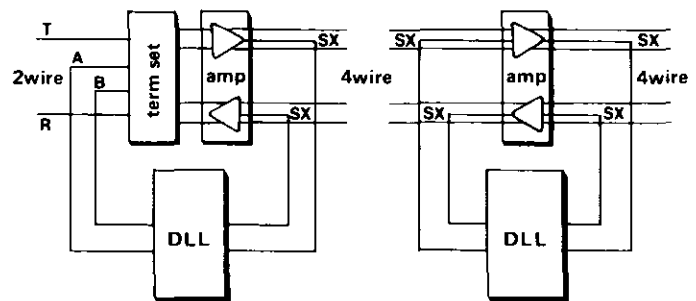

figure 2. Typical 2w-to-4w and 4w-to-4w interfaces
2.04 Though basically a 2wire-to-2wire device, the 7503 can be conditioned via switch option for use in 4wire-to-4wire, 4wire-to-2wire, or 2wire-to-4wire applications. In such applications, however, the 7503 must interface the 4wire circuit(s) through a 4wire device such as a line amplifier or a voice-frequency repeater. For a 4wire circuit on the switching-equipment side of the 7503, this interface is accomplished by connecting the TIP SW and RING SW leads of the 7503 to the switch-side A and B leads or simplex (SX) leads of the 4-wire device. Similarly, for a 4wire circuit on the station side of the 7503, this interface is accomplished by connecting the TIP STA and RING STA leads of the 7503 to the station-side A and B leads or SX leads of the 4wire device. Figure 2 shows 2wire-to-4wire and 4wire-to-4wire interfaces involving the 7503.
line amp, repeater, or term set) on either or both sides. If the module interfaces 2wire transmission equipment on both the switch and station sides, set S8 to the 2W position. If the module interfaces a 4wire transmission device on either side or on both sides, set S8 to the 4W position; also ensure that the 7503's T and R leads on the side(s) where the 4wire device(s) is located are connected to the A and B leads or SX leads on the corresponding side(s) of the 4wire device. (See paragraph 2.03 and figure 2 for details.)